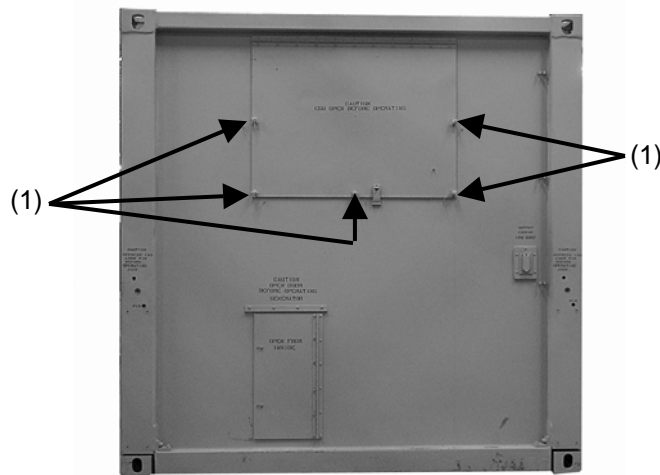

Figure 4-11. Front view of SATS.
3. Open ECU panel by unscrewing five thumbscrews (1) (Fig 4-11).